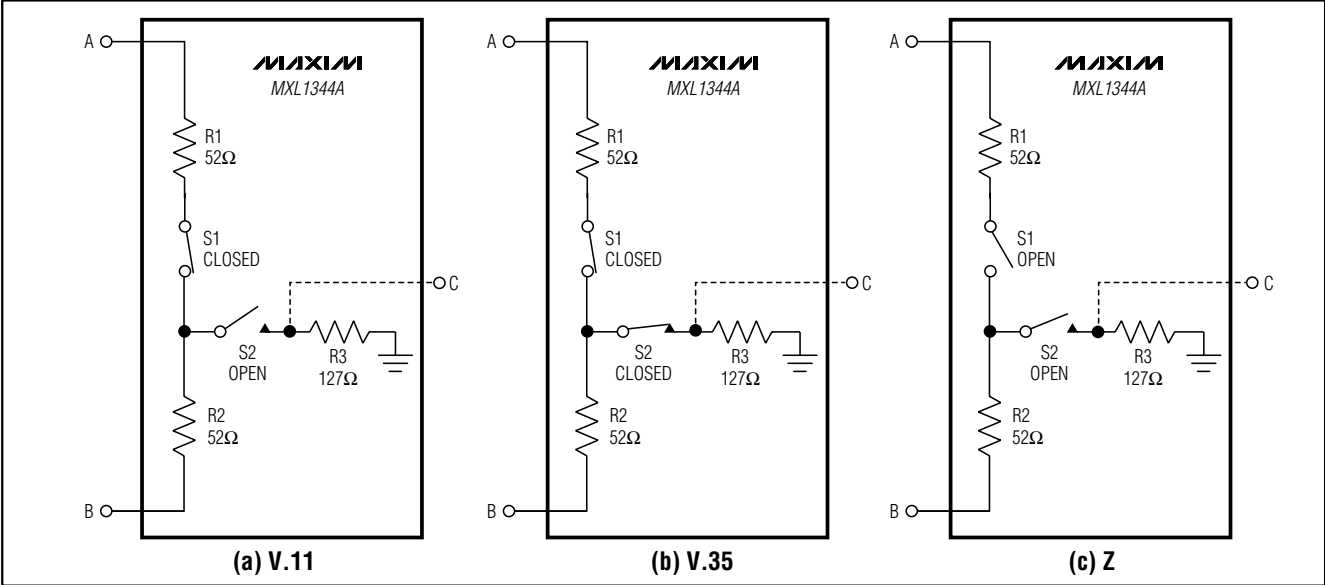

Figure 4. Termination Modes
The termination networks in the MXL1344A can be set to one of three modes, V.11, V.35, or high impedance (high-Z). As shown in Figure 4, in V.11 mode, switch S1
**Note:** Z Indicates high impedance, 1 = high and 0 = low. Z, V.11, and V.35 refer to termination modes (Figure 4.)
The MXL1344A enters no-cable mode when the mode select inputs, M0, M1, and M2 are connected HIGH or left unconnected. In no-cable mode, all six termination networks are placed in V.11 mode, with S1 closed and S2 open (Figure 4).